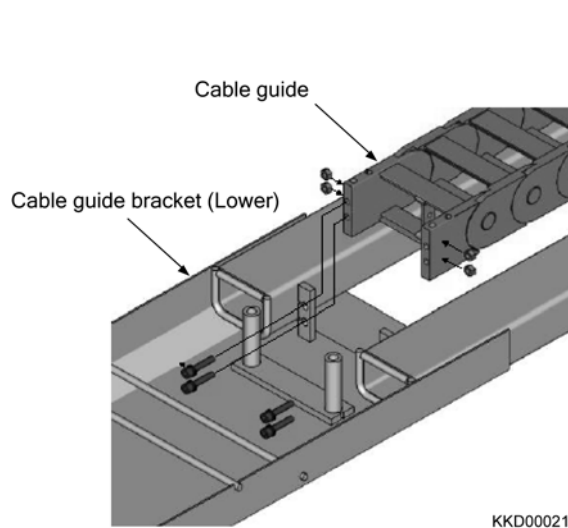

Fig. 2-50
- 25) Remove the cable guide from the cable guide bracket (Lower). (Fig. 2-50)